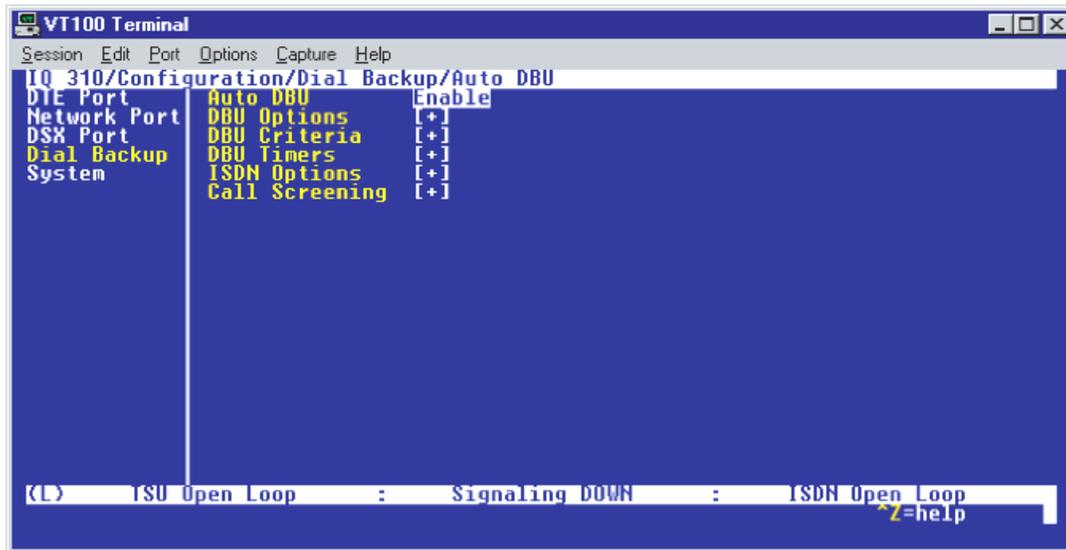

Figure 5. Auto DBU Enabled
4. Use the down arrow to select **ENABLE**; then press **<ENTER>**. At this point, the **AUTO DBU** parameter will change to **ENABLE** and the screen shown in Figure 5 will appear.